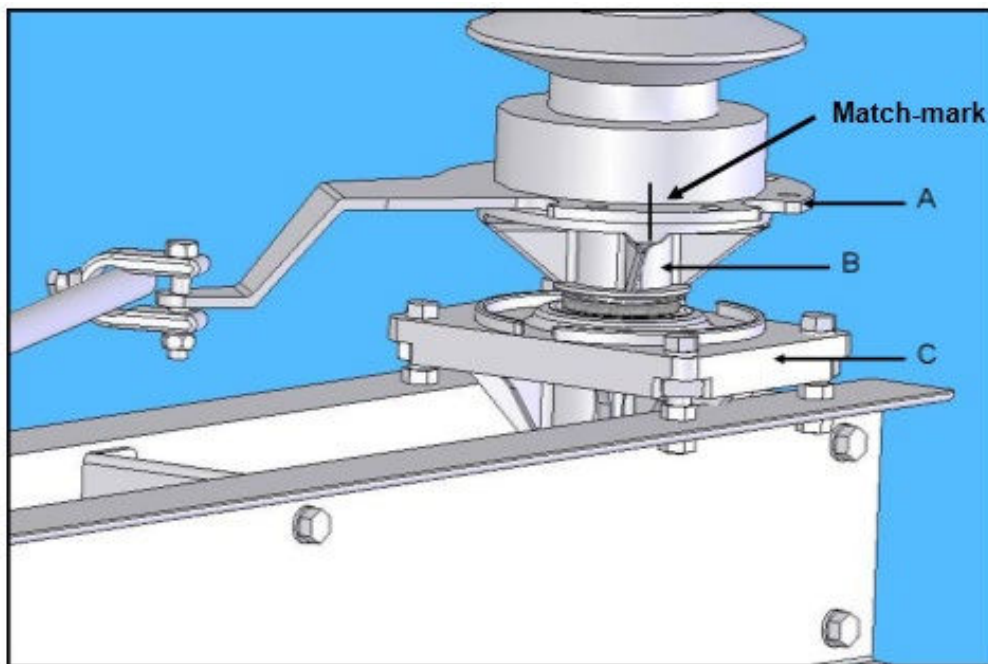

Figure 2: Match-Marked Components (Heavy Duty bearing)
3. Before disassembling the live parts from the switch base you must match mark each of the parts indicated to ensure correct re-assembly. Match-mark A to B and B to C as shown in **Figure 2**. **Rotate seismic blade lock assembly 90 degrees to prevent interference during operation.** Failure to complete this step will make final adjustment more difficult.